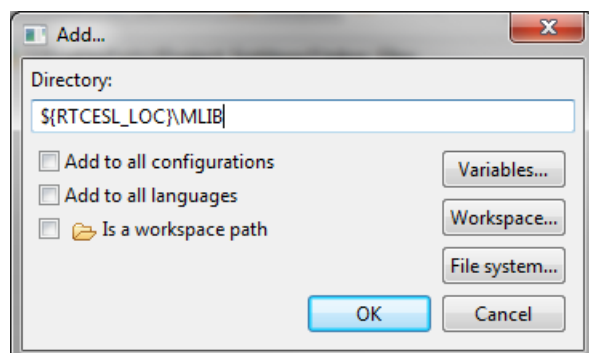

Figure 1-17. Library path inclusion
5. Look for the RTCESL_LOC variable by clicking Variables..., and then finish the path in the box by adding the following (see Figure 1-17): \${RTCESL_LOC}\MLIB.